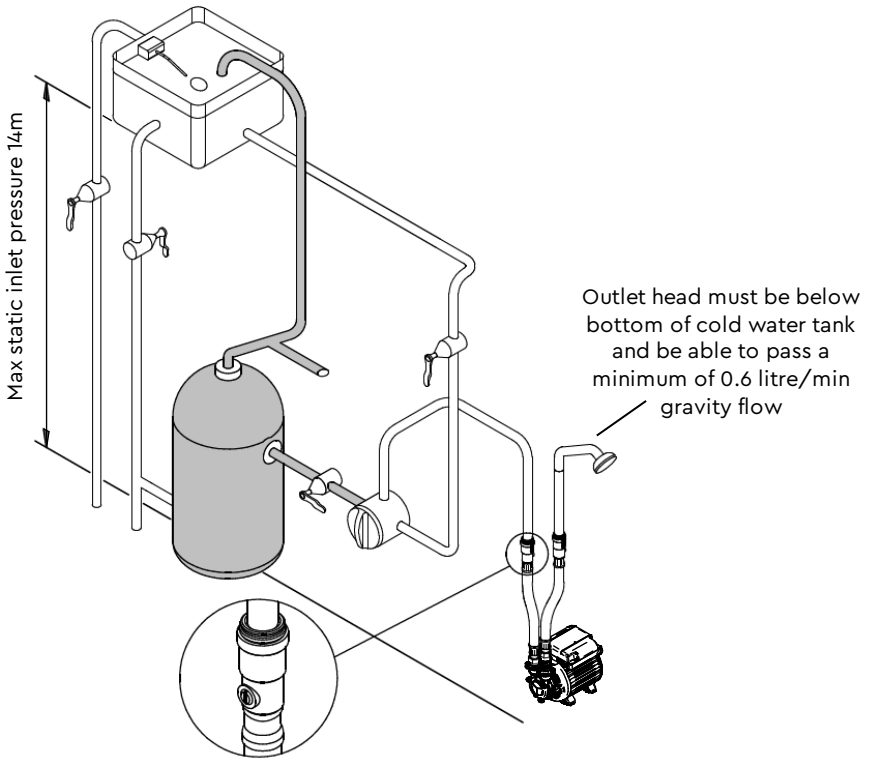
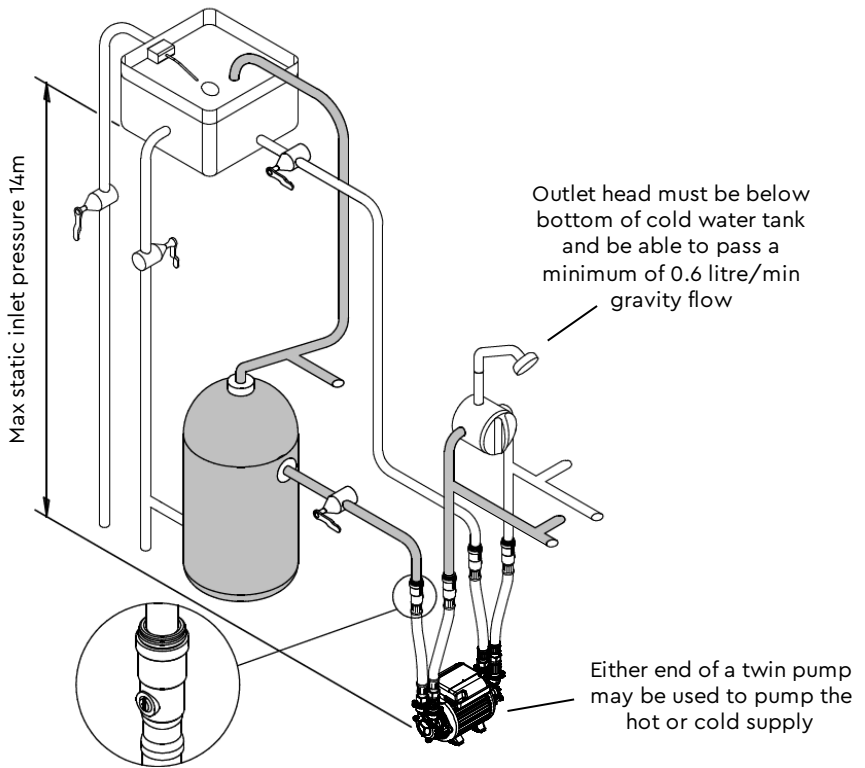

Figure 2
Figure 3
- **Static inlet pressure:** Before deciding where to locate the unit, check to ensure the static inlet head between pump and the bottom of the cold water tank (Figure 2 and Figure 3), is at least 0.5 metres and does not exceed the max inlet head of 14 metres.